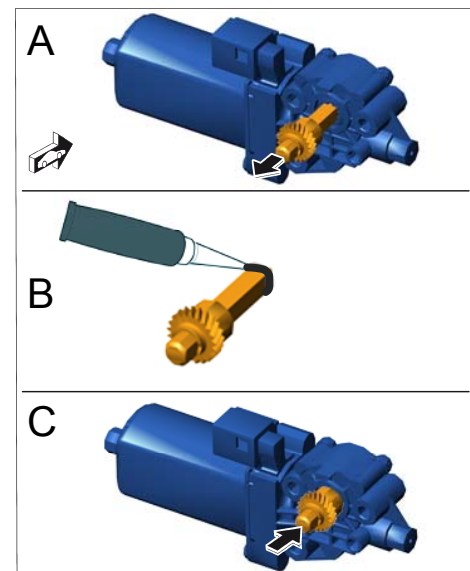

Figure 1
2.1 Pull pinion shaft out of the guide for the motor ⇒ *Figure 1 -A-*.
2.3 Coat the end of the pinion shaft with **Loctite 480 adhesive** all the way around ⇒ *Figure 1 -B-*.
2.4 Insert the coated pinion shaft into the motor immediately (adhesion time: 10 to 150 sec.) and slide it in as far as it will go ⇒ *Figure 1 -C-*.